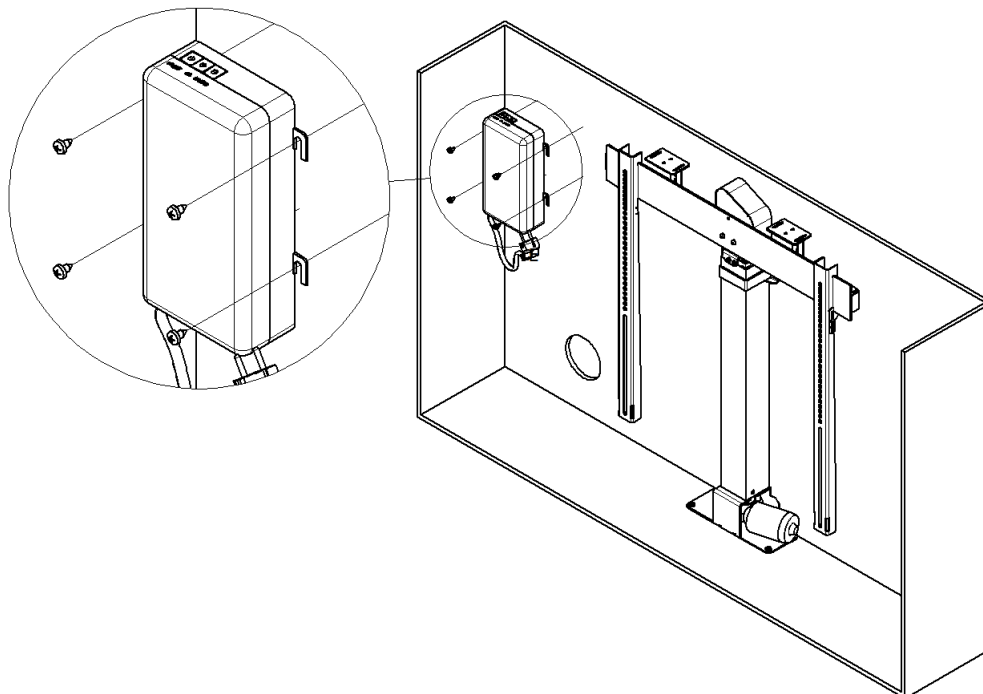

Fig.3
1. Mount the controller as shown on the fig. 3
Put the controller on the brackets, as shown in Fig. 3. Connect the controller to the lift. Driver can be placed anywhere, but remember to keep the right distance for the cable - also the cable should not snag the the lift and TV elements.